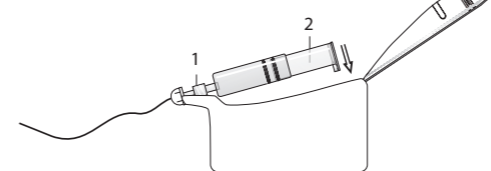

Fig. 3. Positioning of syringe in pump.
4. Fit the syringe into the pump by inserting the front section first (1). Allow the syringe to drop into position so that the threaded piston (2) lines up with the drive screw (see Fig 3).